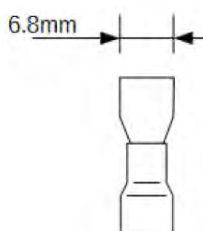

Figure 2: Quick Connect (QC) Dimension
All load negative returns are connected directly to the **J35** negative terminals. All are terminated by using quick connect (QC). Dimension of the QC is specified in *Figure 2*.